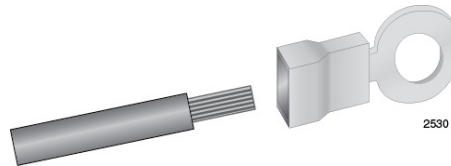

Figure 24. Attaching the Stranded Grounding Wire to the Ring Lug
2. Insert the grounding wire into the ring lug and use a crimping tool to secure it. Refer to Figure 24.